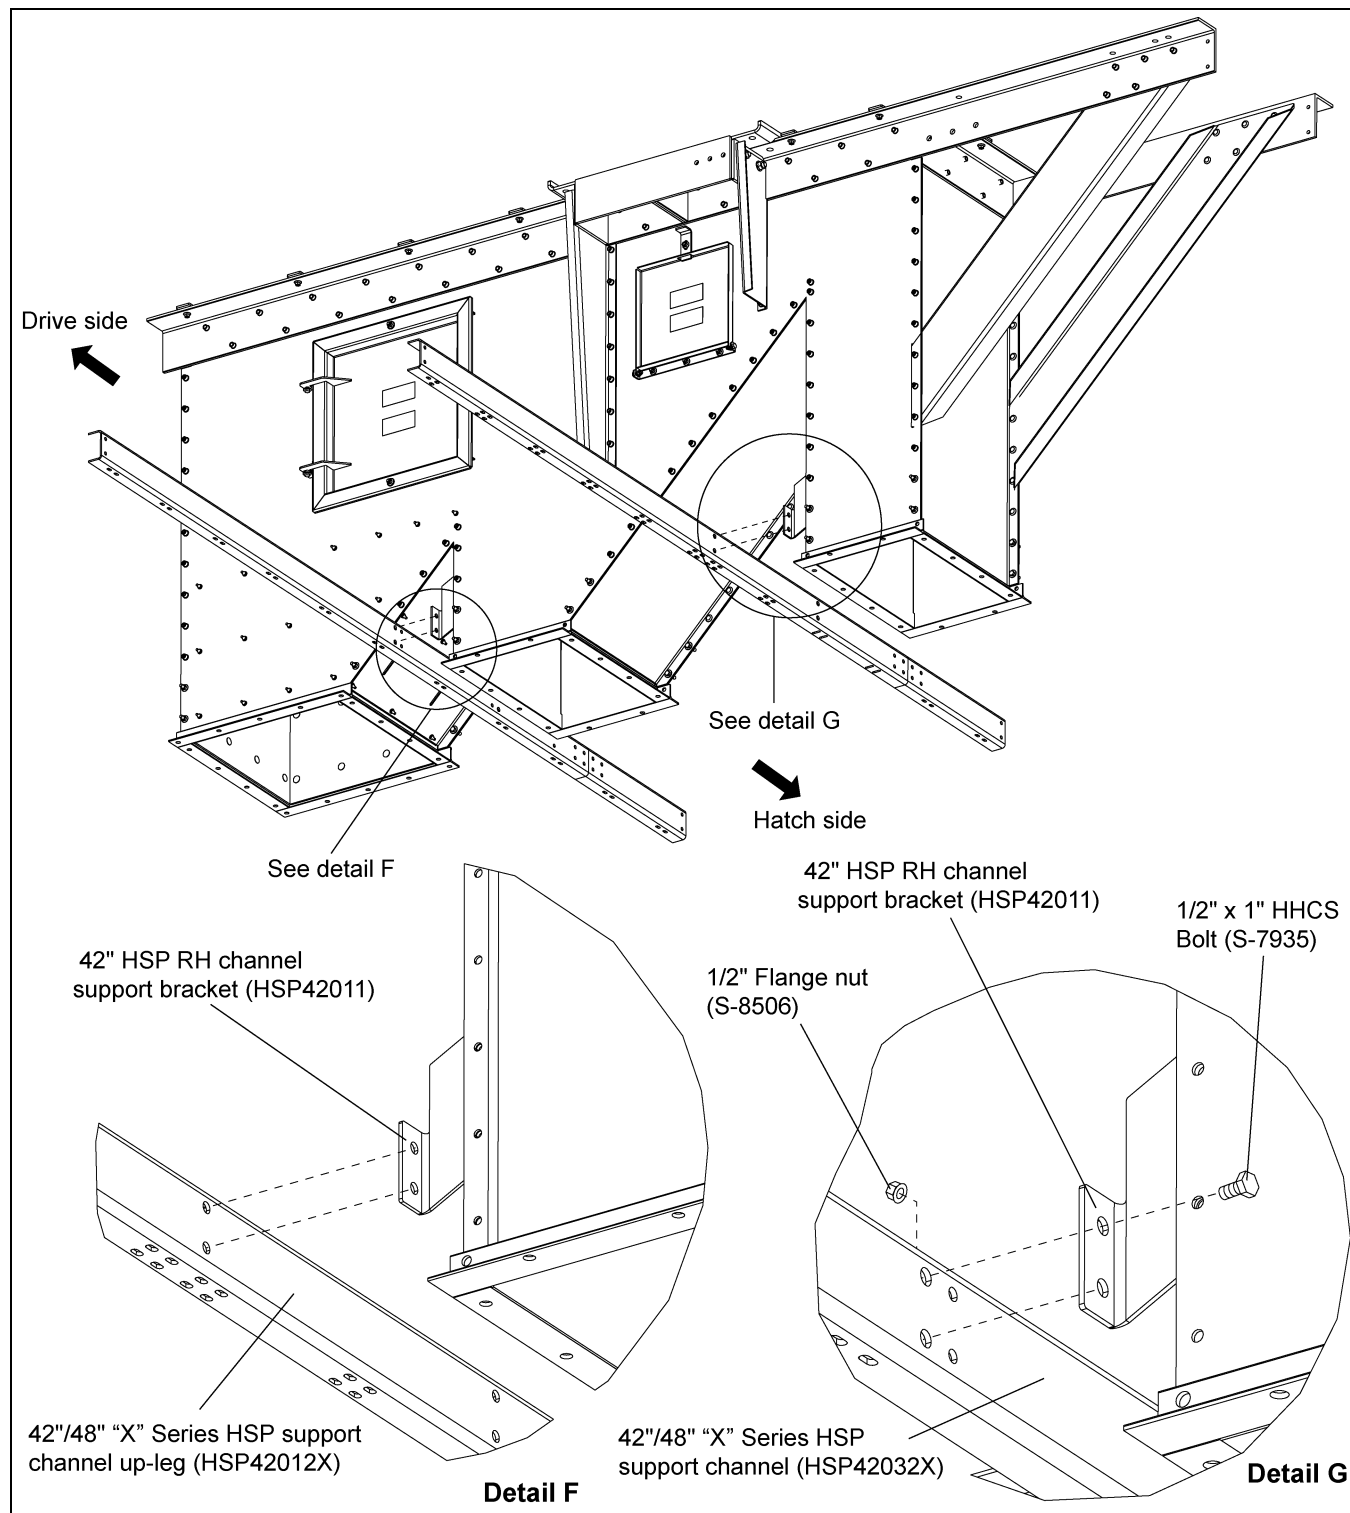
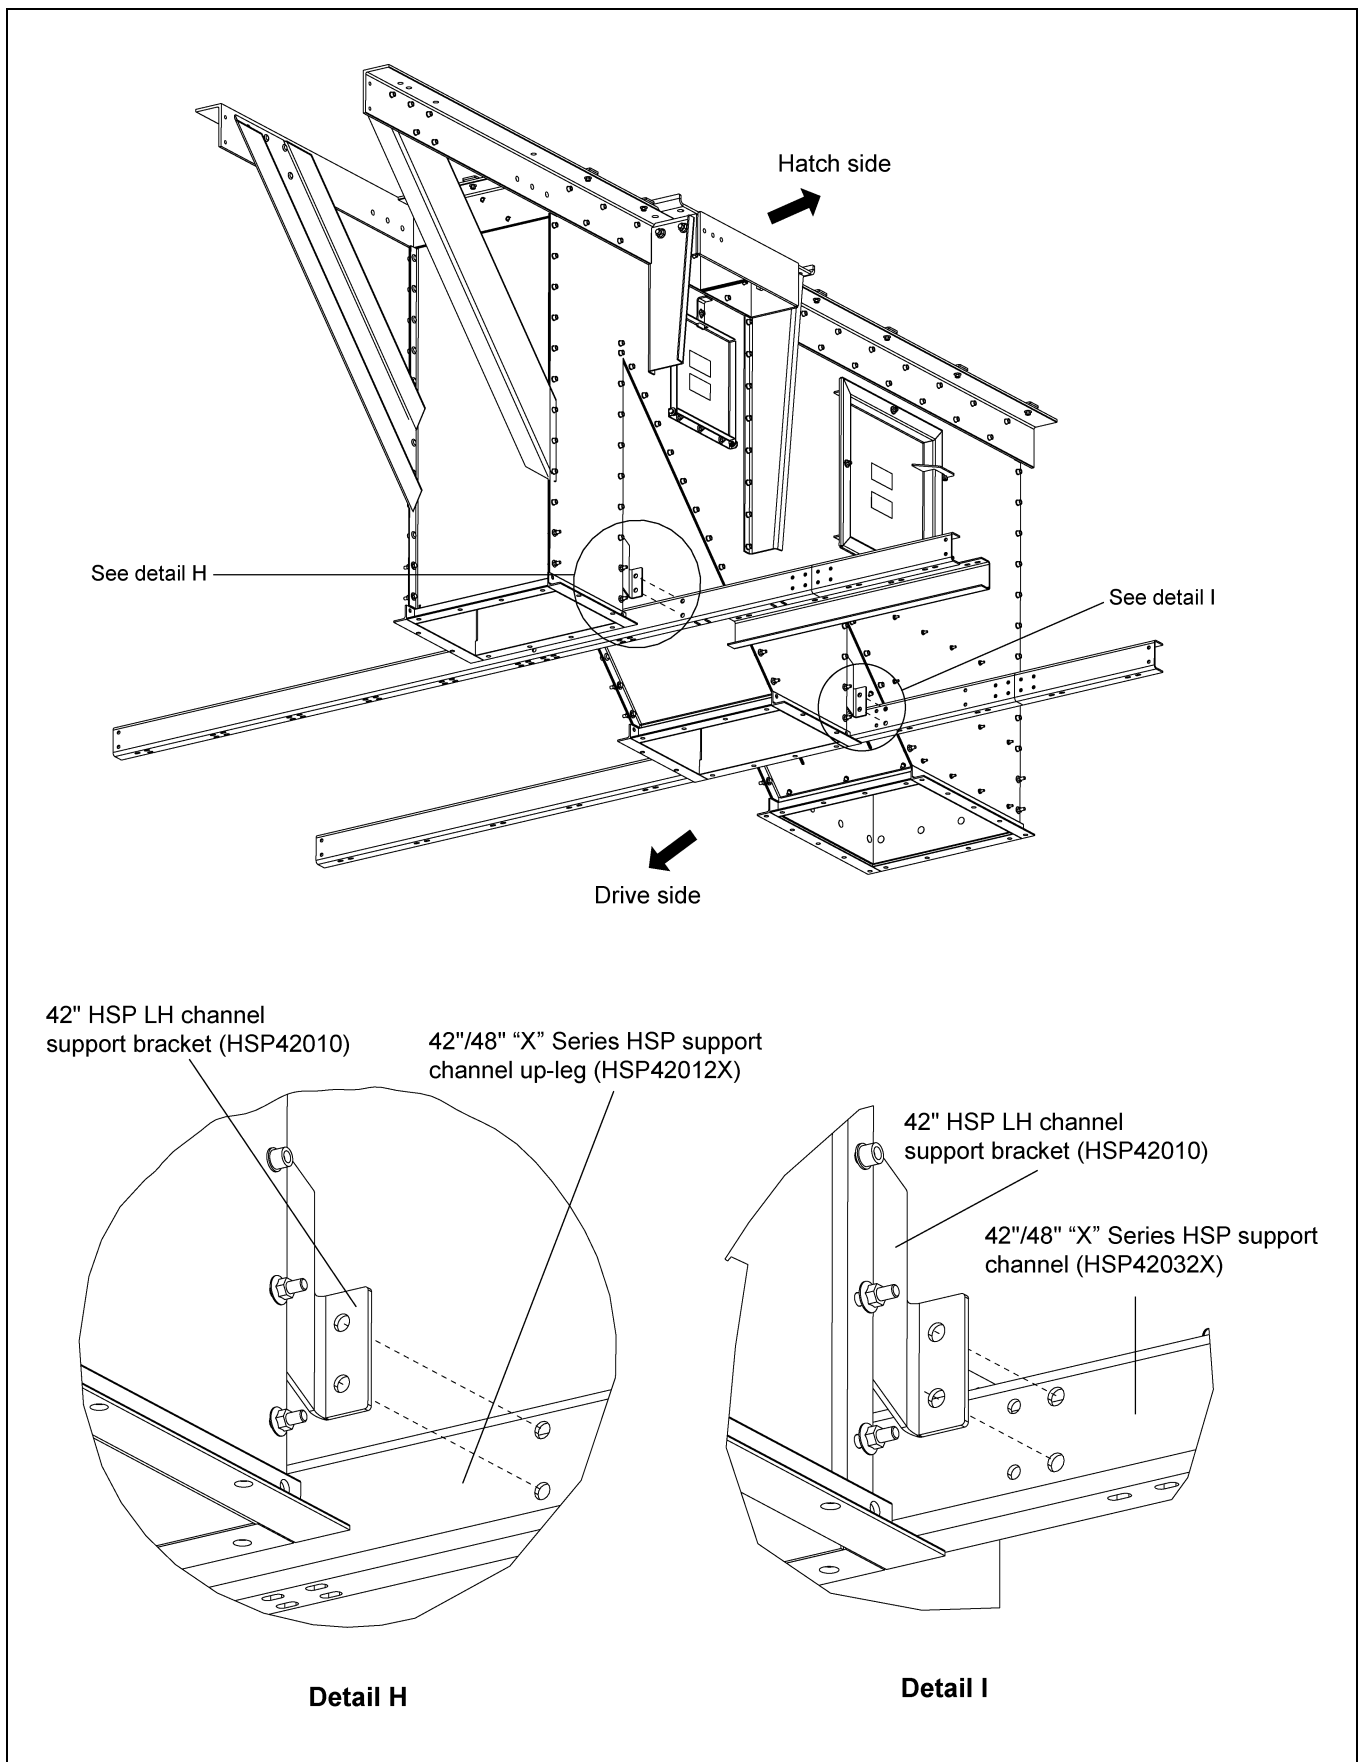
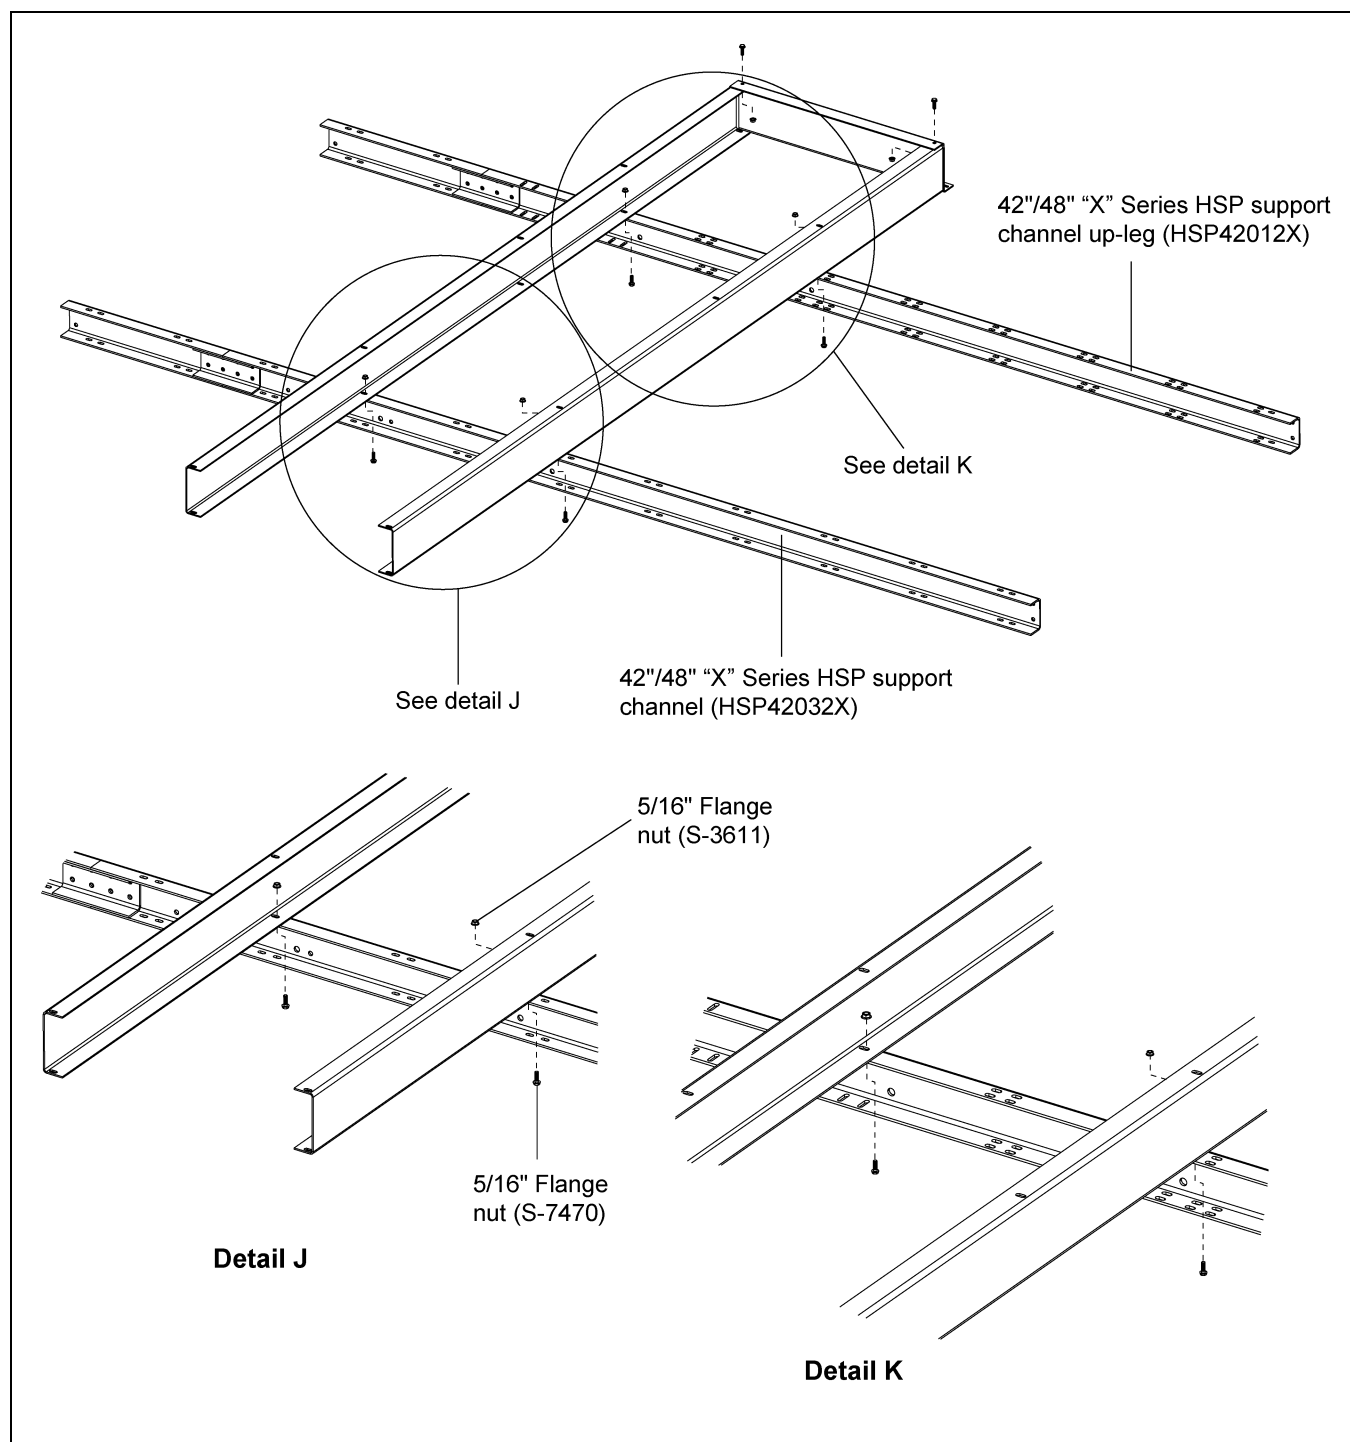

Figure 8B
Figure 8C
Figure 8D
3. Attach two (2) the support channels to the brackets located on the lower head. Fasten using 1/2" x 1" HHCS bolts (S-7935) and 1/2" flange nuts (S-8506). (See Figure 8B below and Figure 8C on Page 53.)
2. Align toe boards with the support channels as shown in Figure 8C below and Figure 8D on Page 54.
3. Fasten to channels using four (4) 5/16" x 1" flange bolts (S-7470) and nuts (S-3611).